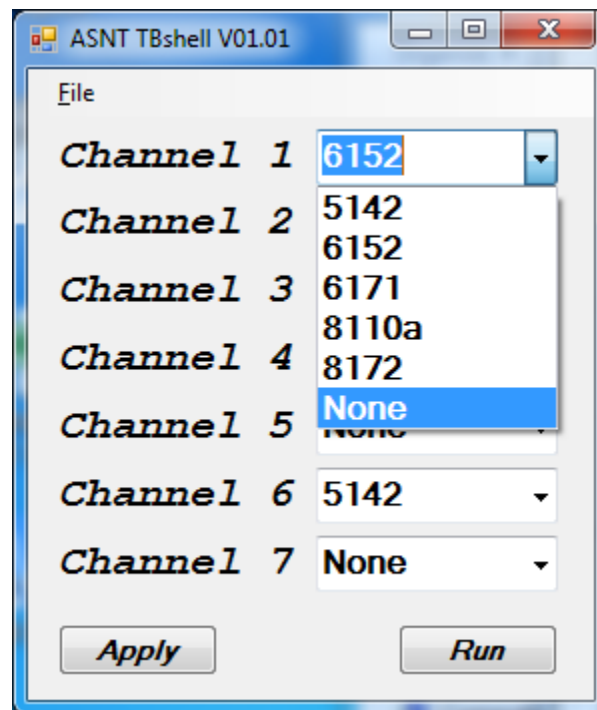

Fig. 8. TBshell dashboard Window
6. The default TBshell dashboard window is shown in Fig. 8. It has seven drop-down lists one for each ASNTu2s channel, buttons "Apply" and "Run" and drop-down menu "File".